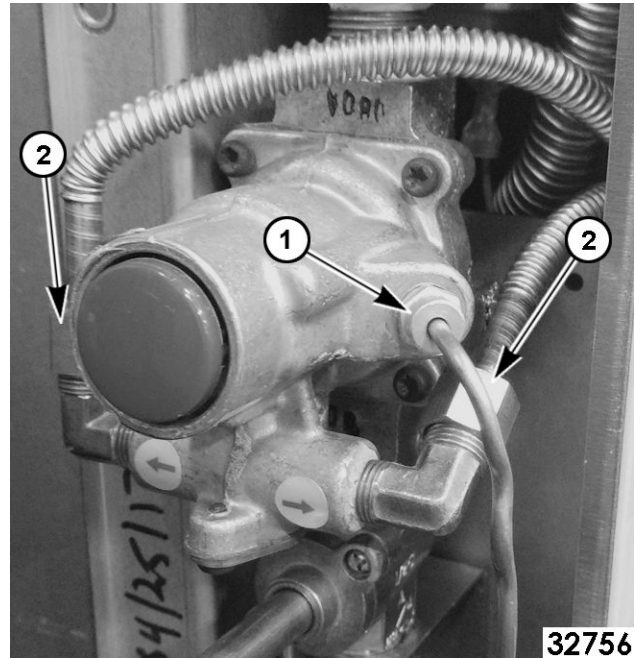

Fig. 28
3. Remove fitting (1, Fig. 28) and flex line (2, Fig. 28) from pilot safety valve.